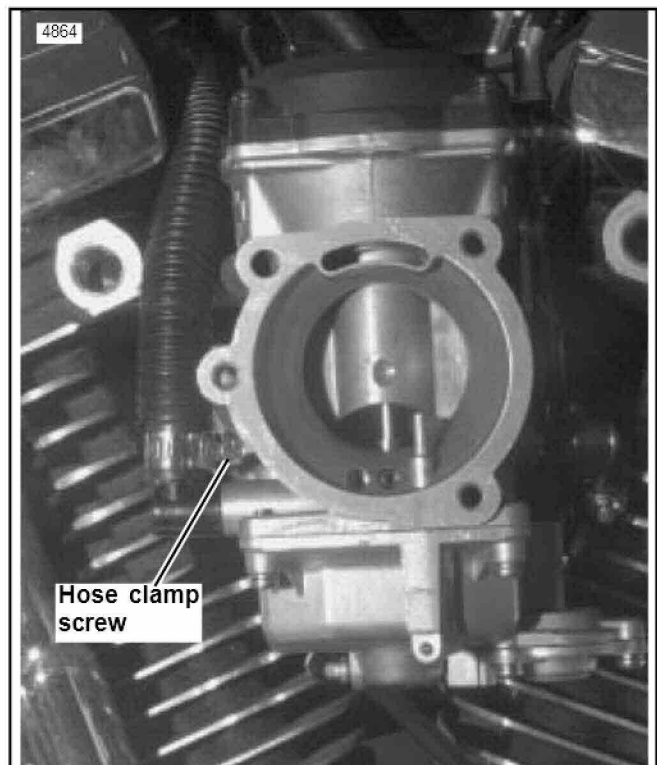

Figure 4. Fuel Line Routing
10. See Figure 4. Slip fuel line shield and hose clamp on fuel line.